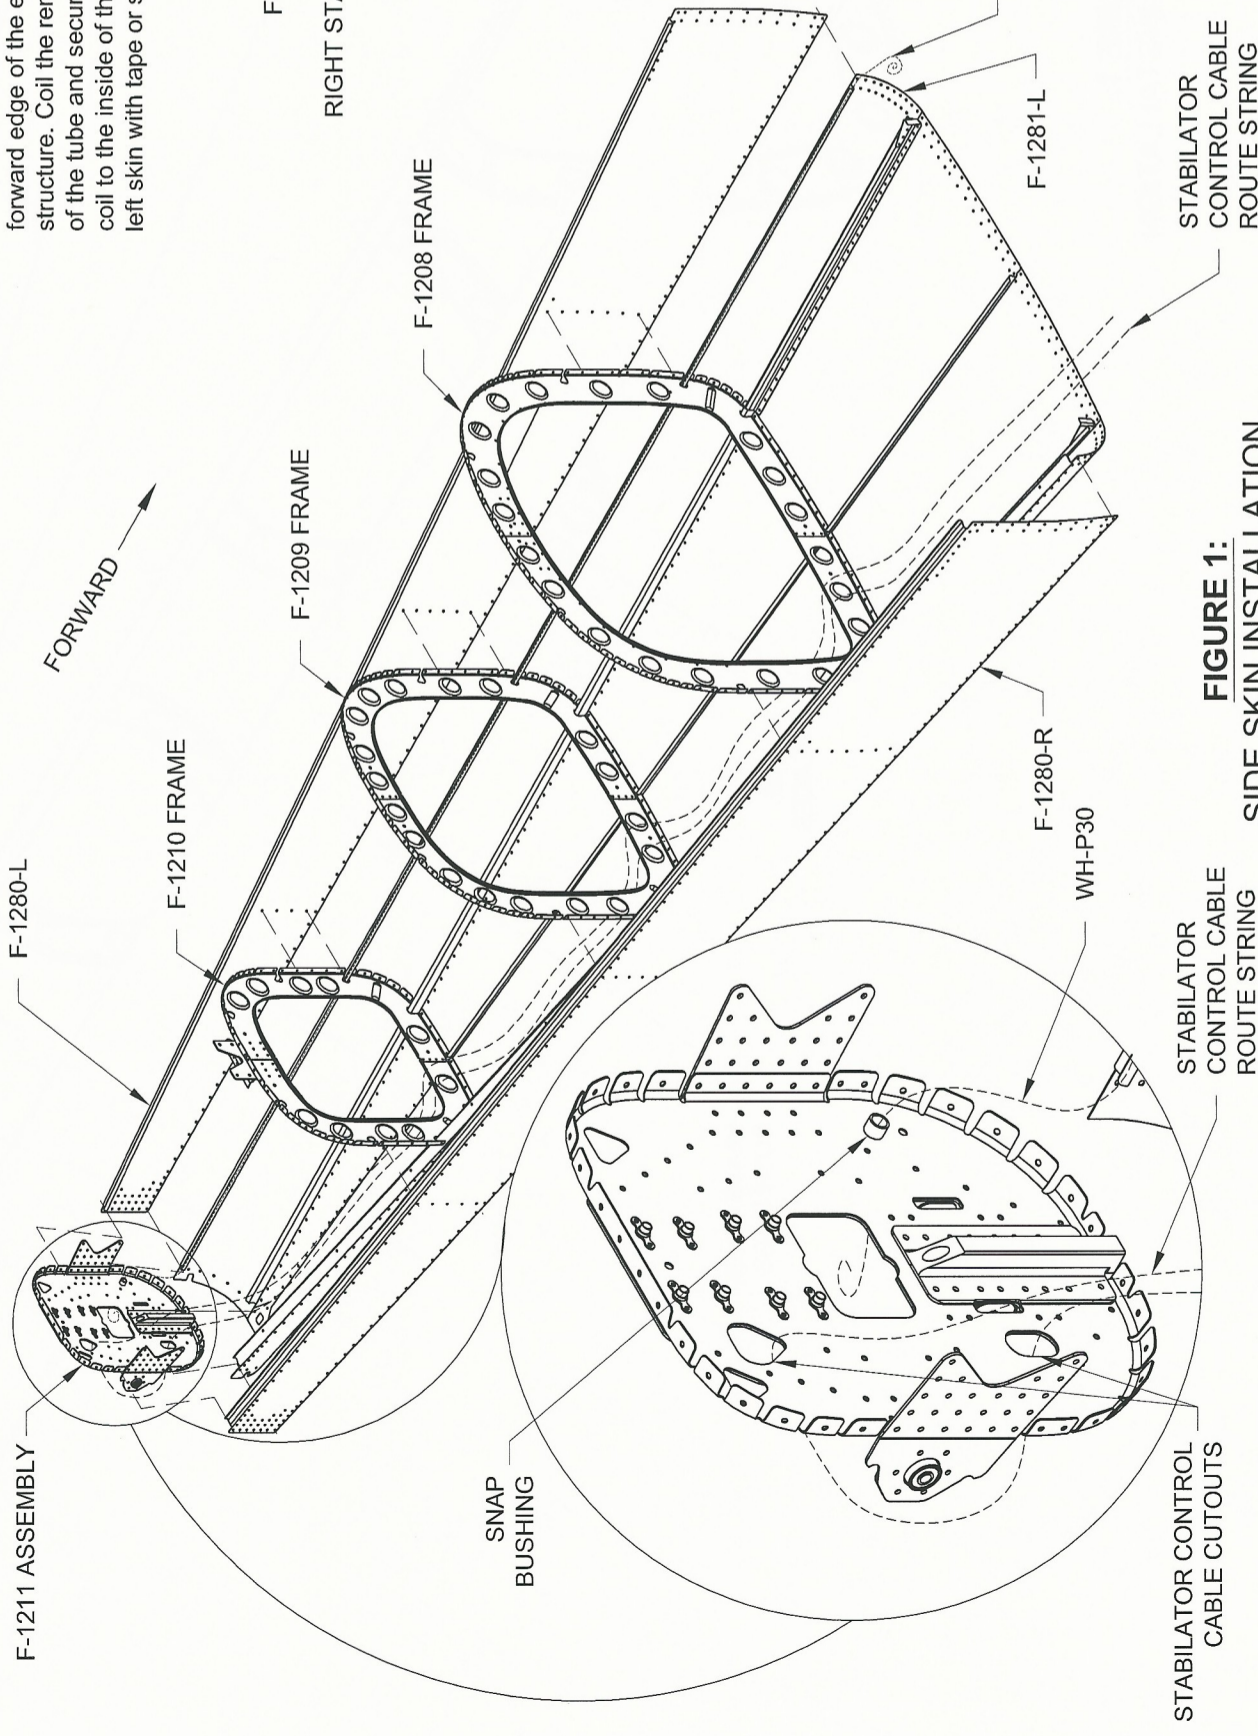

FIGURE 1:
Step 2: Cleco the F-1211 Assembly to the aft end of the existing structure as shown in Figure 1.
Step 3: Hook the J-stiffener of the F-1280-L & -R Left and Right Side Skins into the notches of the F-1208, F-1209, F-1210 Frames. Cleco the left and right side skins to the existing structure as shown in Figure 1.
Step 4: Route a string from the forward end of the existing structure, through the center of each frame, to the F-1211 Assembly. The string will go out through one of the stabilator control cable cutouts and back in through the other stabilator control cable cutout as shown in Figure 1. Return the end of the string to the forward end of the existing structure. Tape both ends of the string to the inside surface of the bottom skin.